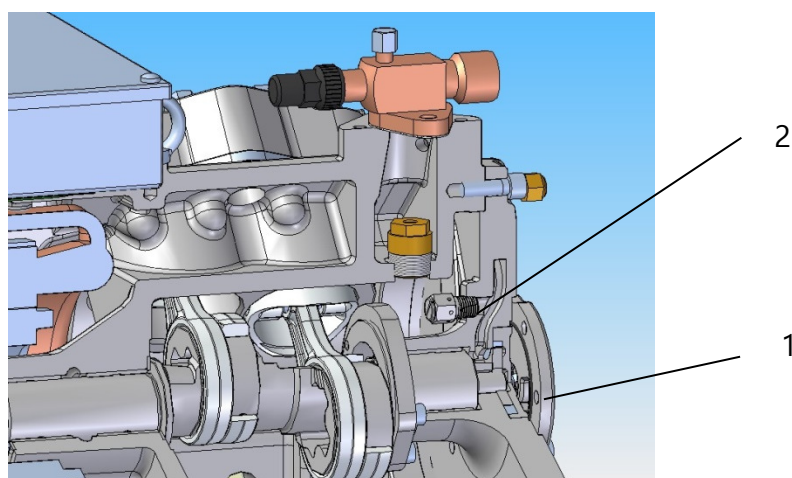

Fig. 11 Compressor model PP1-L/H4xx-F: gear pump and safety valve
The gear pump has also a safety valve (ref. 2 in Fig. 11), which allows the oil by-pass to the carter when the delivery pressure exceeds the set value (open at 4,1 bar; rearmament 2,8 bar).